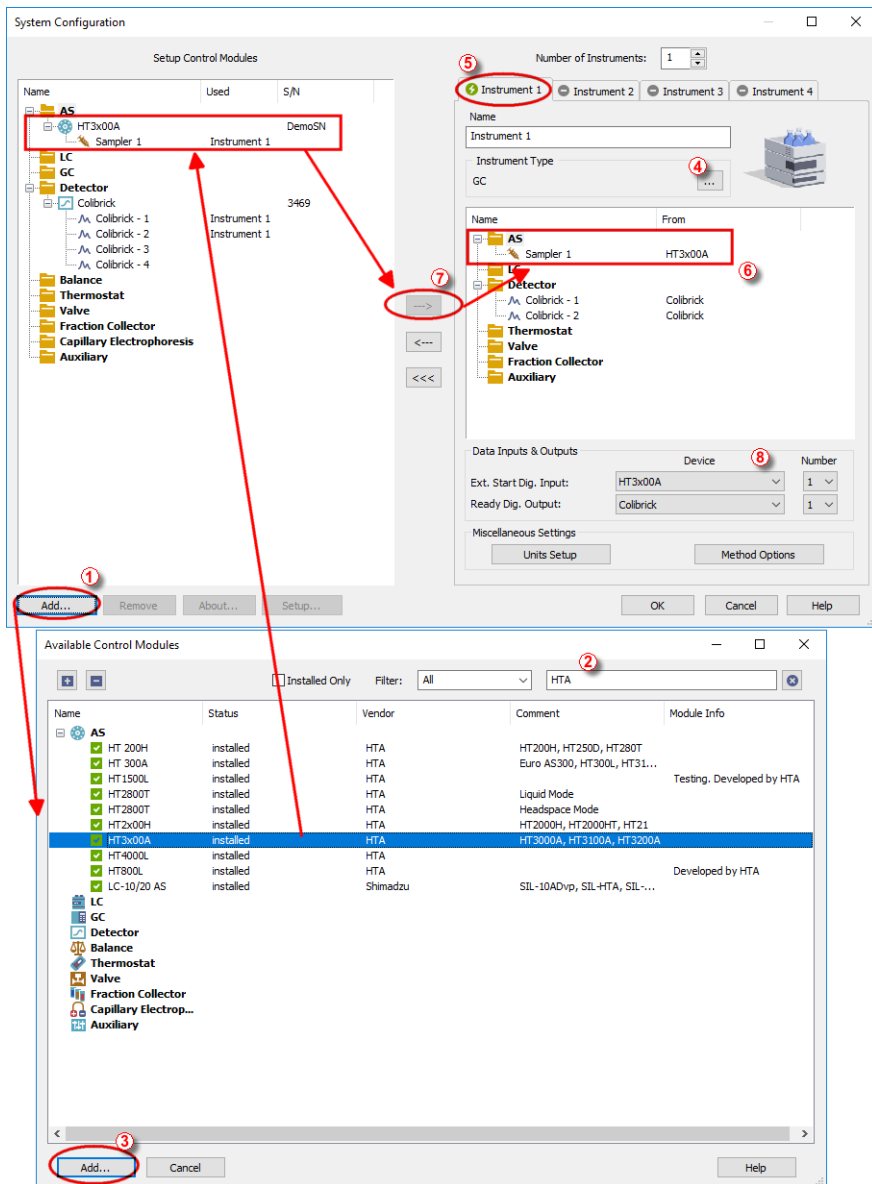

Fig 2: System Configuration
- Press the **Add** button ① (see **Fig 2** on pg 5.) to invoke the **Available Control Modules** dialog.
- You can specify the searching filter ② to simplify the finding of the driver.
- Select the **HT3x00A** sampler and press the **Add** ③ button.